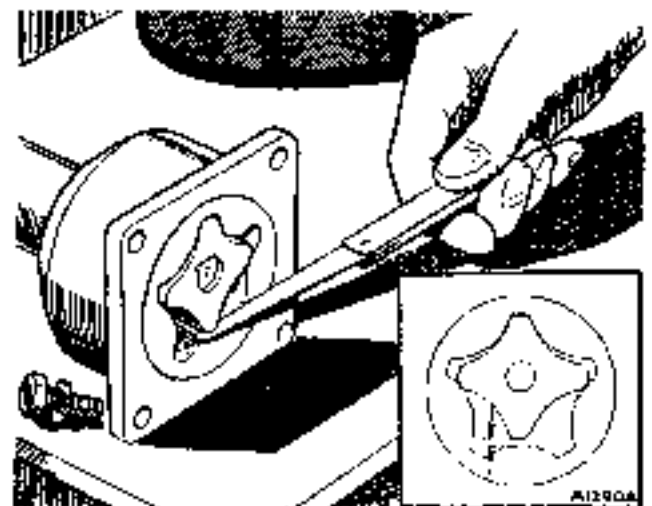

Fig. Aa.6
- (3) Repeat test (2) with the rotor lobes in the position shown in Fig. Aa.6, and if the clearance exceeds .008 in. (.203 mm.) renew the rotors.